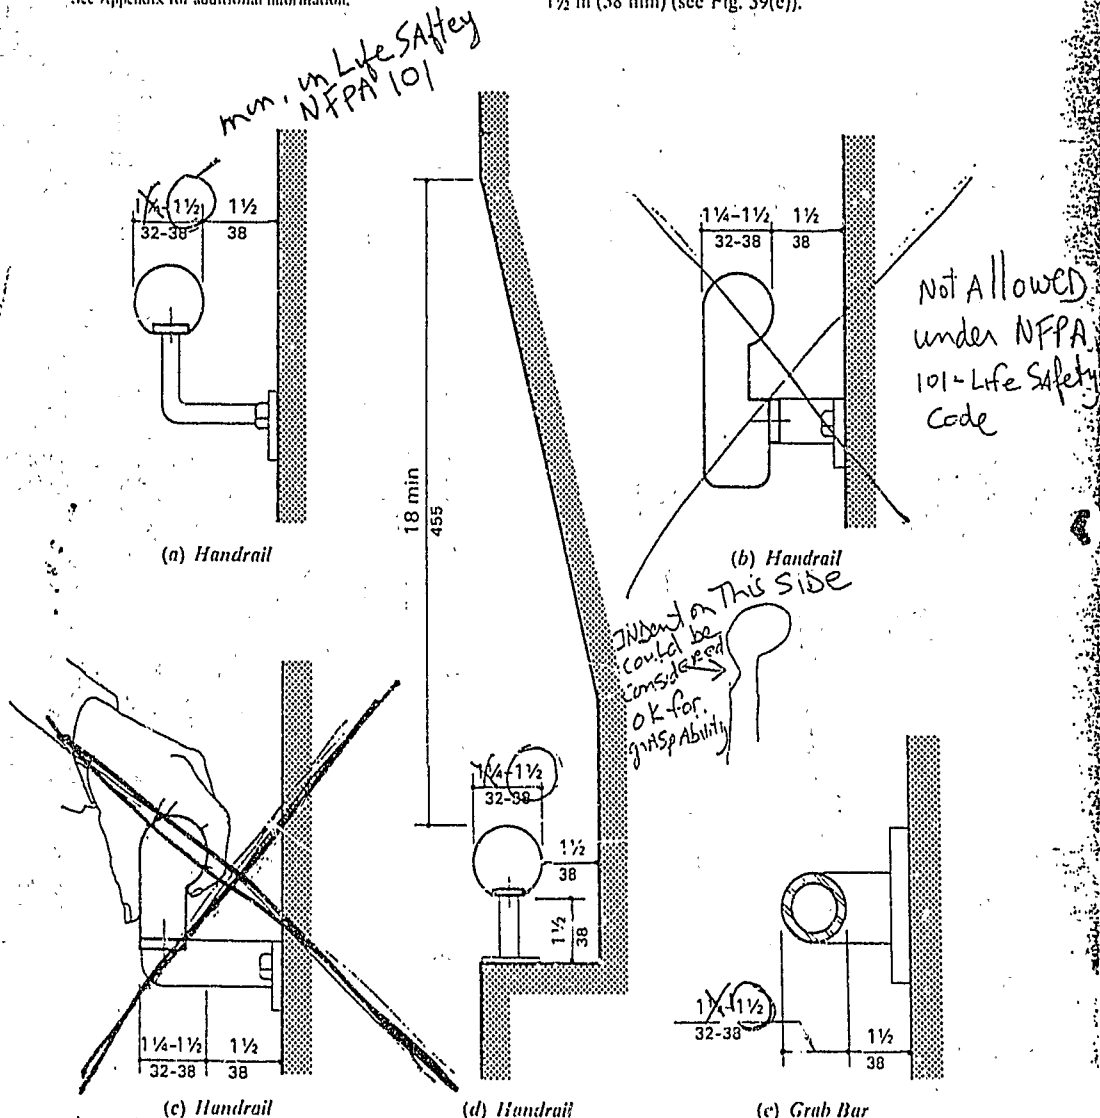

Fig. 39
- (1) Handrails shall be provided along both sides of ramp segments. The inside handrail on switch-back or dogleg ramps shall always be continuous.
- (2) If handrails are not continuous, they shall extend at least 12 in (305 mm) beyond the top and bottom of the ramp segment and shall be parallel with the floor or ground surface.
- (3) The clear space between the handrail and the wall shall be 1½ in (38 mm). Handrails may be located in a recess if the recess is a maximum of 3 in (75 mm) deep and extends at least 18 in (455 mm) above the top of the rail (see Fig. 39(d)).
- (4) Gripping surfaces shall be continuous, without interruption by newel posts, other construction elements, or obstructions.
- (5) The diameter or width of the gripping surfaces of a handrail shall be 1¼ in to 1½ in (32 mm to 38 mm), or the shape shall provide an equivalent
gripping surface (see Fig. 39(a), (b), and (c)). Standard pipe sizes designated by the industry as 1¼ in to 1½ in (32 mm to 38 mm) are acceptable industry tolerances as noted under 3.2.
4.24.2 Size and Spacing of Grab Bars. The diameter or width of the gripping surfaces of a grab bar shall be 1 1/2 in to 1 3/4 in (38 mm to 45 mm), or the shape shall provide an equivalent gripping surface. If grab bars are mounted adjacent to a wall, the space between the wall and the grab bar shall be 1 1/2 in (38 mm) (see Fig. 39(e)).